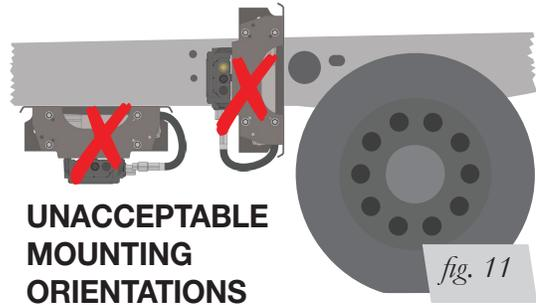

fig. 11
2. EZ Mount can be mounted in any orientation except with the electrical connector pointed down or with the Air Lift logo facing the ground (Fig. 11). There are mounting holes in the web of the EZ Mount bracket and in the top flange. Use the included drilling template (Figs. 21 & 22) for mounting with self-threading screws or hex cap bolts. Use a 1/4" drill bit to make pilot holes if using self-tapping screws. If mounting from the frame, before drilling, ensure that the back side of the frame is clear of vehicle components, including brake lines, fuel lines, wiring, etc. Do not remove components from the EZ Mount assembly.
Please refer to the Installation Diagram (Fig. 11) for complete air line routing instructions.